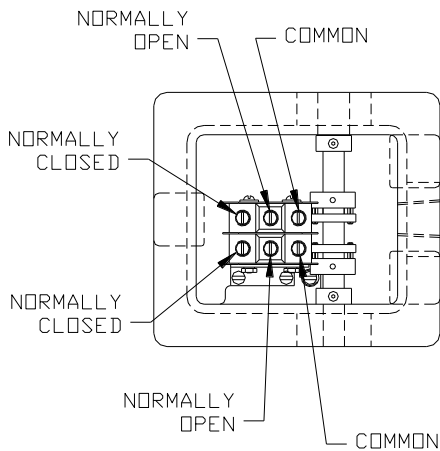

Figure 3: Terminal Identification (SPDT)
1. A cam (or two cams on the two micro-switch unit) on the shaft actuates the micro-switch. Loosening the cam(s) and the shaft locking collars permits the shaft to be moved laterally in the casting. The shaft locking collars must be positioned inside against the bushings, and along with the cams, tightened securely in place. The paddle sensor and counterweight can be positioned in various positions on the shaft, and must be tightened securely on the shaft. Use the 3/32" Allen wrench supplied with the control. Refer to figures 3 and 5.